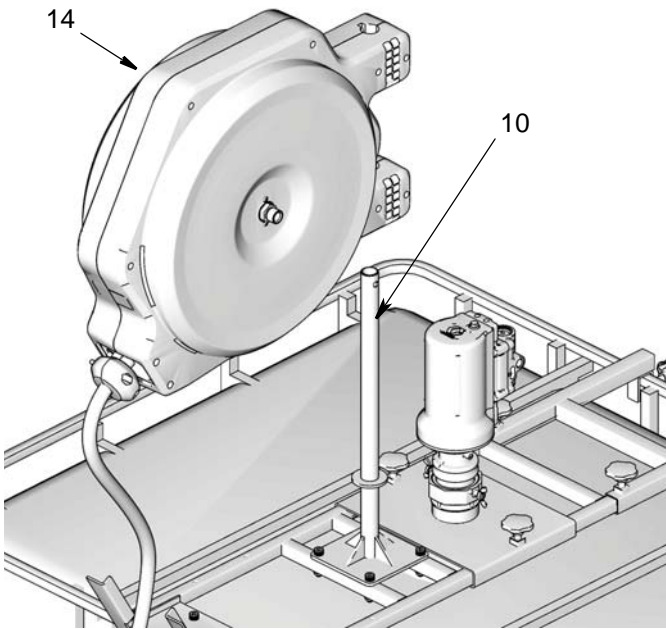

FIG. 16
3. Install the hose reel (14) on the reel bracket (10) as shown in FIG. 16.